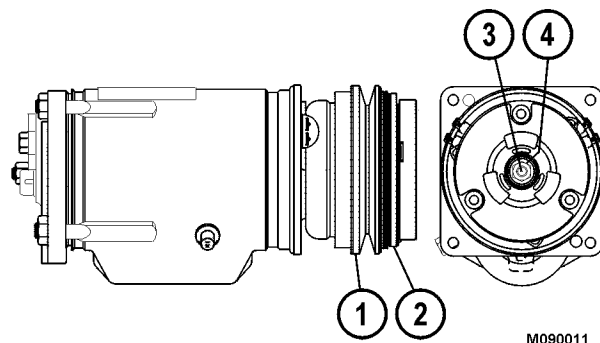

FIGURE 4-17.
2. Remove the drive belt from compressor belt pulley (1, Figure 4-17).
5. Install locknut (4, Figure 4-17) and tighten the nut until it seats. The gap should now measure 1.02 ± 0.043 mm (0.040 ± 0.017 in.). If the gap is not within the specification, check for proper installation of the square key.